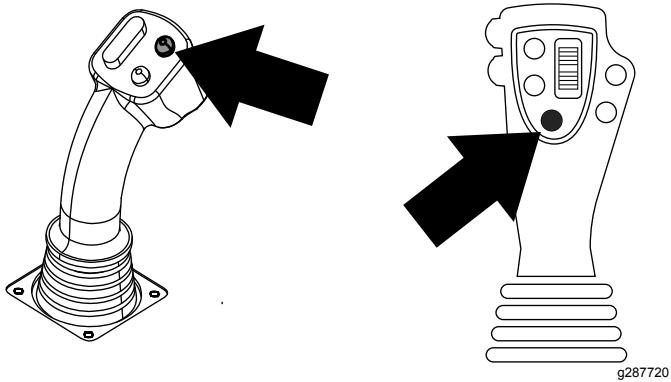
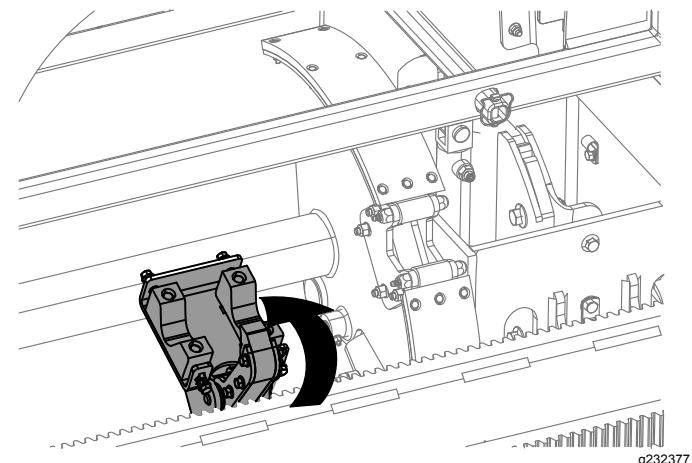

Figure 18
Figure 19
6. Hold the lower left button on the 8-button joystick or the upper button on the 4-button joystick to grip the pipe (Figure 18) and Figure 19) and release the button.